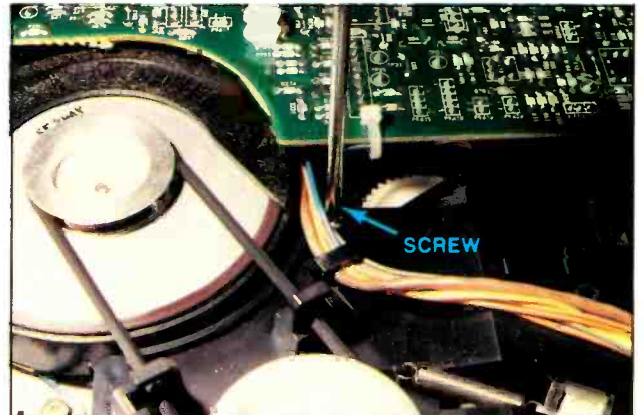

Figure 7. Remove the Phillips screw holding down the plastic reel assembly bracket.
7. Shift the wire harness to expose the Phillips screw holding down the bracket. Use a number 2 screwdriver to remove it. (See Figure 7.)